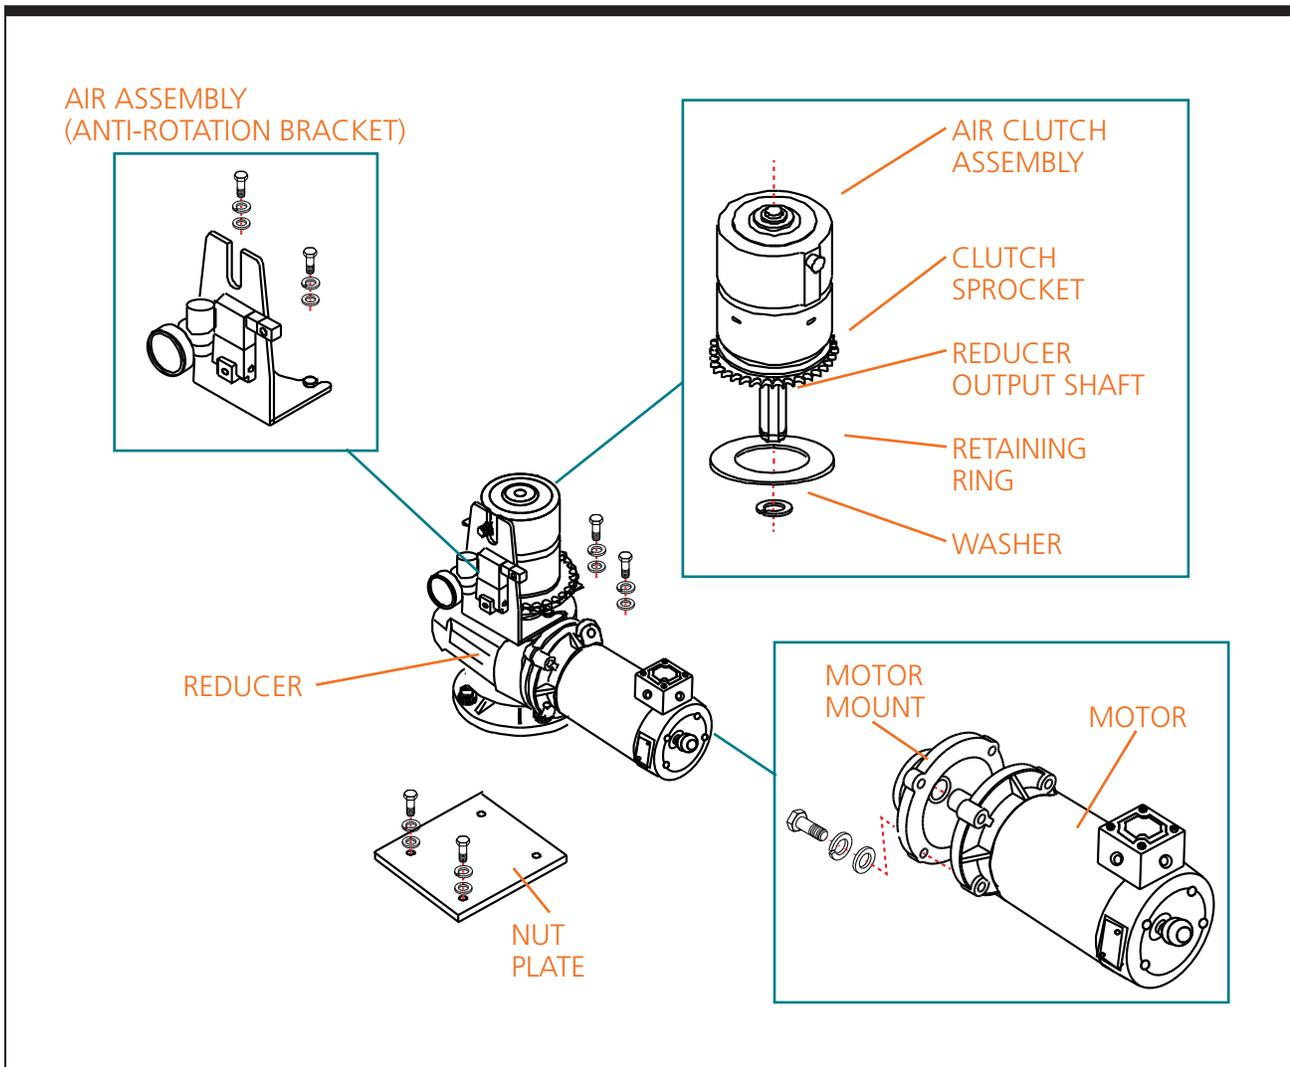

Figure 5-2. FS-40/50 Feeder Air Clutch and Motor Assembly
Step 1—Gain Access. Disconnect power and air. Remove the frame/safety guard giving best access to the motor and gear reducer. Loosen mounting bolts and slide air assembly bracket off (see Figure 5-2). Lock out and tag out the system.
Step 6—Assemble Output Shaft/Air Clutch. The output shaft on the metric speed reducer is removable and is available as a separate kit. If replacement is required, clean both contact surfaces before assembly and apply any appropriate anti-seize compound to avoid oxidation (rust) and possible seizing of parts, refer to manufacturers technical information sheets that correspond with the output shaft. Slide the air clutch assembly down onto the reducer output shaft (see Figure 5-2) until it bottoms out against the shoulder. Tighten setscrew. The speed reducer used in the metric FS-40-RD or FS-50-RD feeder is lubricated for life with synthetic lubricant and requires no filling before use.
Step 3—Begin Air Clutch Replacement. Observe the order of components before replacing the unit (see Figure 5-2 on the previous page). Disconnect air supply, anti-rotation bracket, shaft retaining bolt and setscrew.